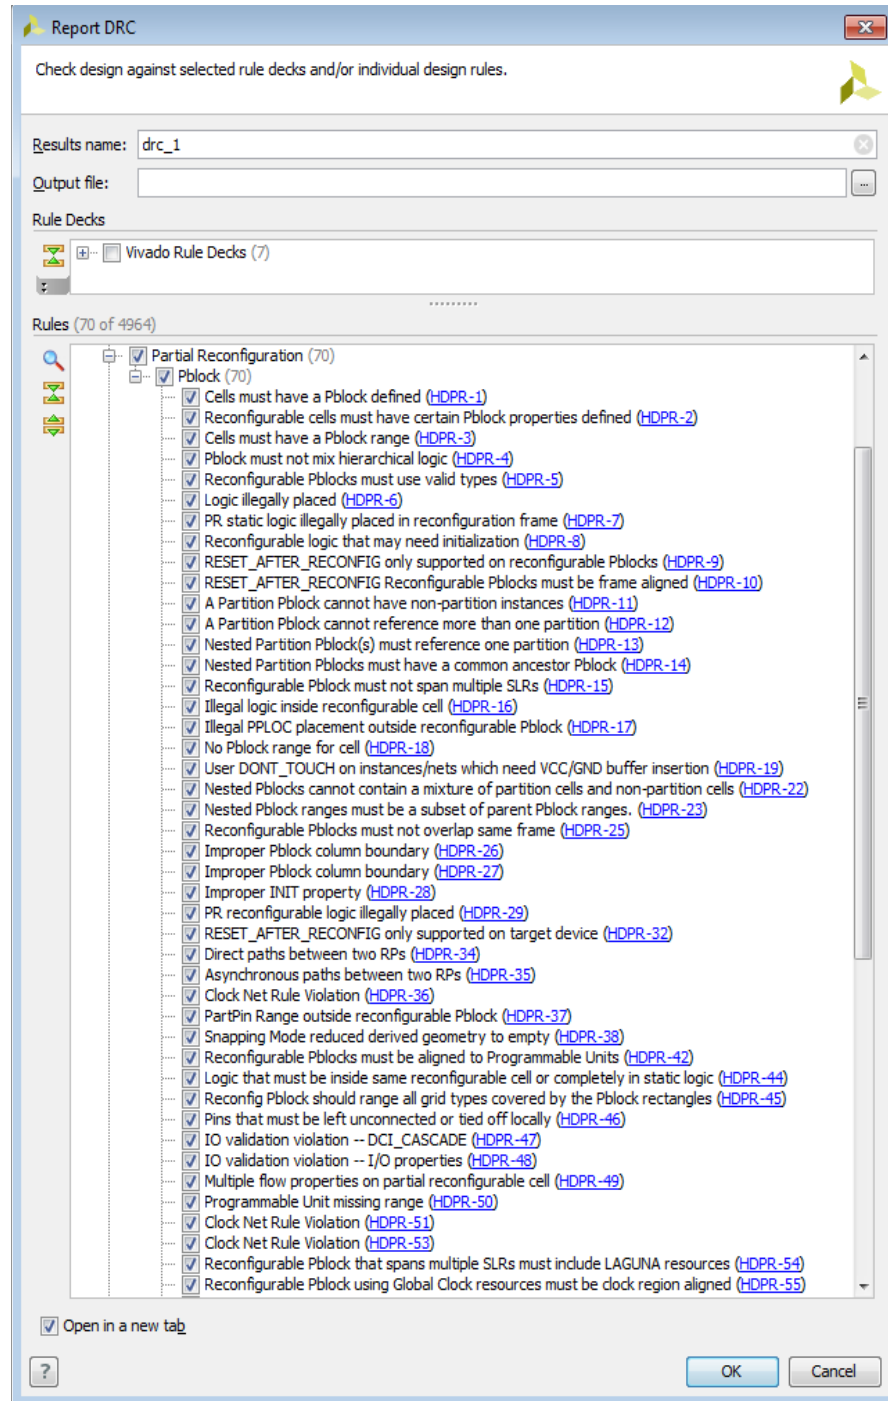

Figure 3-1: Partial Reconfiguration DRCs in the Vivado IDE
4. Design rule checks (DRCs) can be issued to validate the floorplan and other design considerations for the in-memory configuration. To run, select **Tools > Report > Report DRC** and ensure the Partial Reconfiguration checks are present (see Figure 3-1, page 34). Note that if `HD.RECONFIGURABLE` has not been set on a Pblock, only a single DRC is available, instead of the full complement shown below.